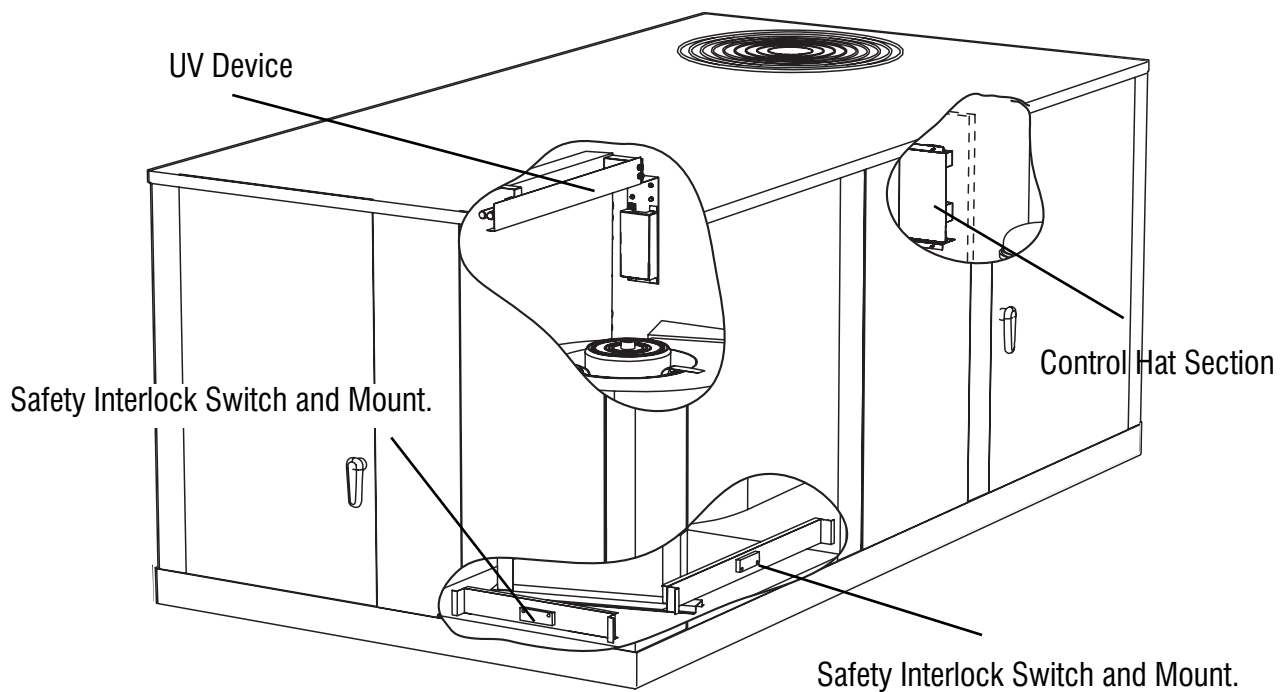

Fig.1 Part Arrangement
1. Mount control hat section on the wall of the electrical compartment using included mounting screws. (See Fig. 1 for location.)